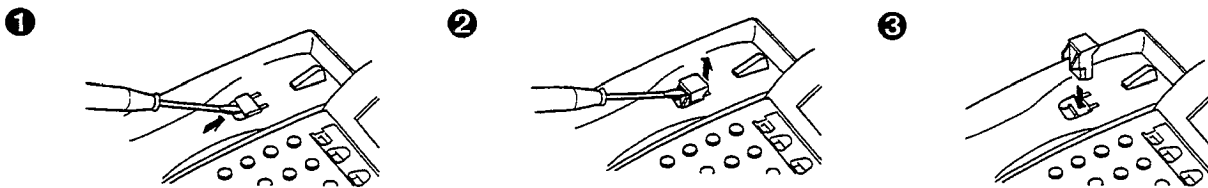

Figure 4-19 Positioning the Handset Hanger
1. Remove the hanger by sliding it out of the slot. Remount it back into its original position so that the hanger protrudes providing a rest for the handset. (This procedure applies when using either the base unit or the WMU-U Unit.) Refer to Figure 4-19 Positioning the Handset Hanger for the steps for removing and remounting the handset hanger.